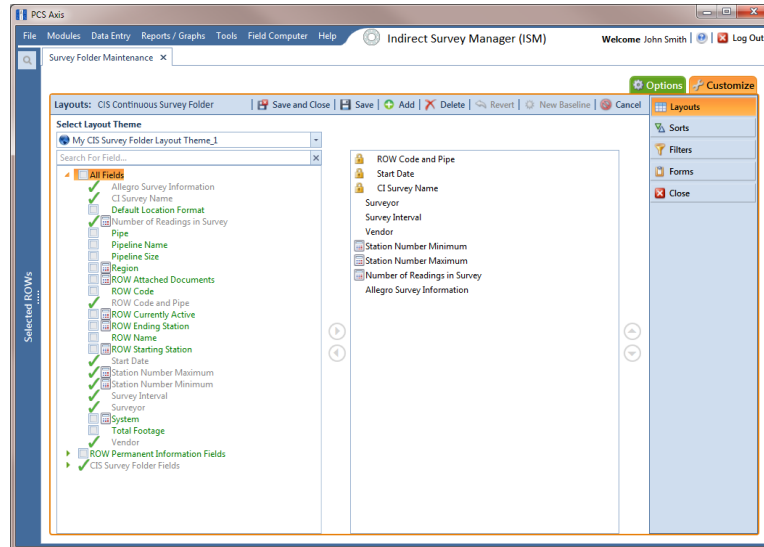

Figure 6-12. Layouts
- 8 Click  **OK** to save changes and return to the *Layouts* page (Figure 6-12).
NOTE: Fields with a lock icon  are required and cannot be removed from the theme, such as  **ROW Code and Pipe** shown in the previous example (Figure 6-12, page 206).